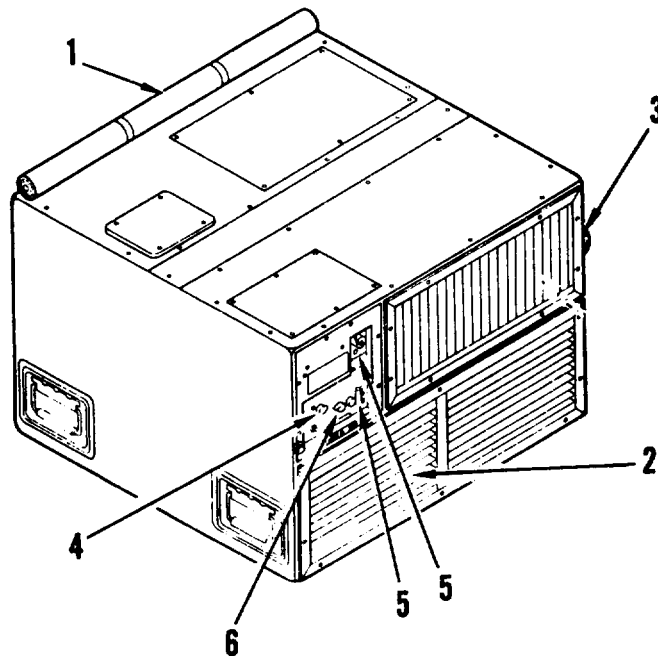

Figure 2-6. Starting instructions for coding
b. Starting Instructions for Cooling (See Figure 2-6). Start the air conditioner for cooling as follows: